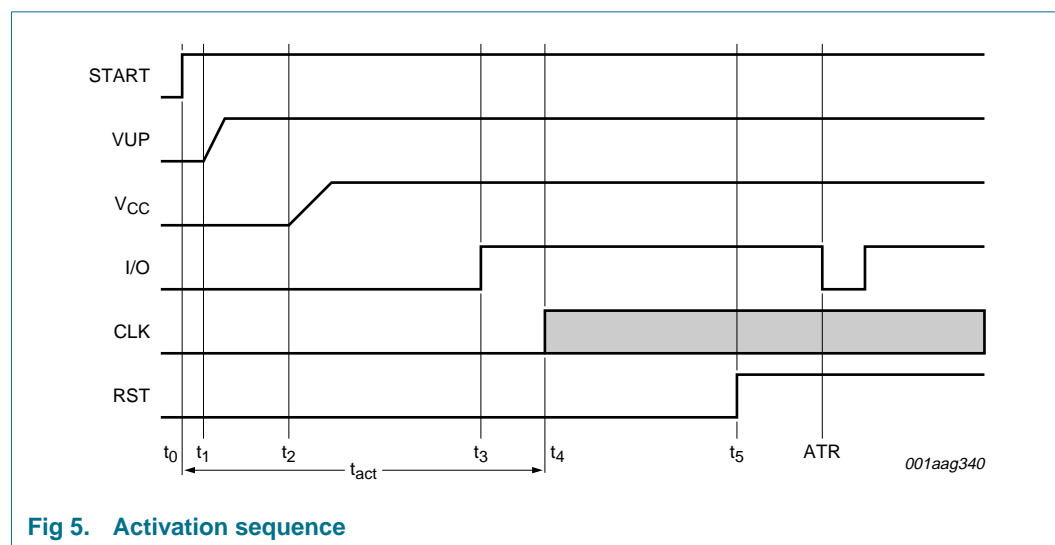

Fig 5. Activation sequence
1. The internal oscillator changes to its high frequency (t_0 , see Figure 5).